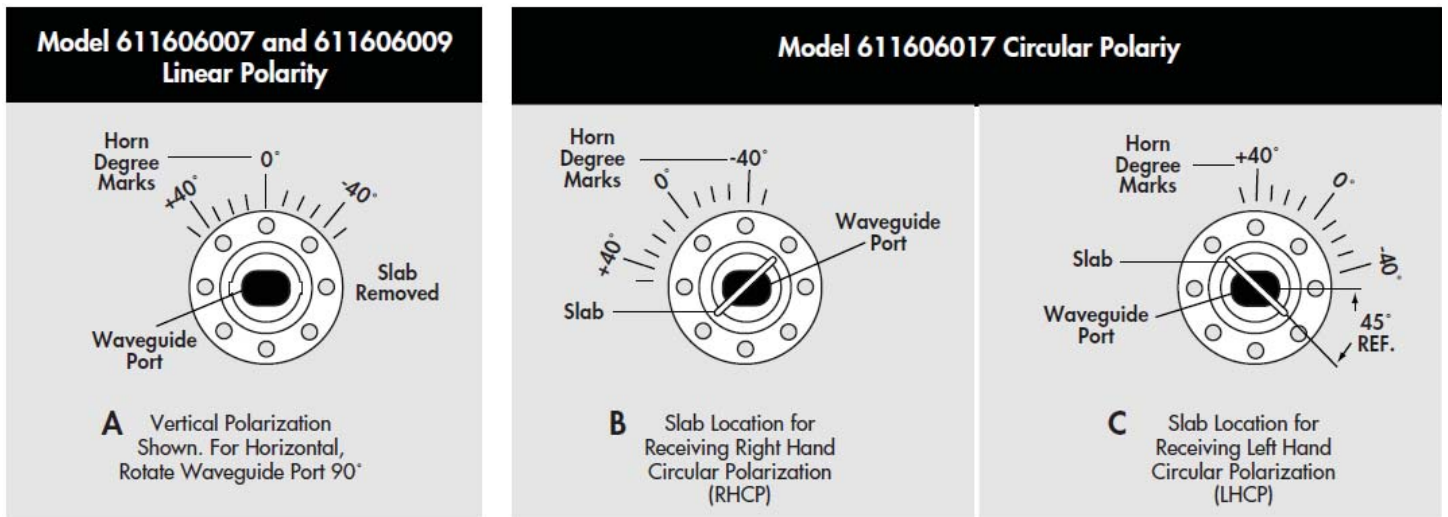

FIGURE 2 POLARITY SELECTION & SETTING
- Refer to Figure 2 for selecting polarity setting of feed assembly. Align horn to transition as required in next step.
- Assemble feed horn and header to transition using M4 screws, lock washers, and O-ring supplied (9, 10, 4). Note that the header (item 5) is captured between the feed horn flange and the transition. Tighten screws securely.
- Place bushings (A) around feed horn and place feed assembly in junction block (B). Secure with clamp (C) and M6 screws and flat washers (7, 8).